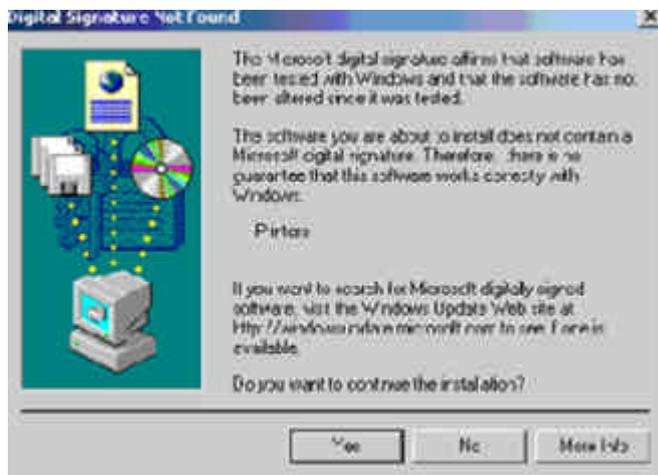

Fig. 11
3. The **Digital Signature Not Found** message box will appear (see Fig.11). You will be asked if you wish to continue installation, select **Yes**. In Windows XP, select **Continue Anyway**.
- i. The **Digital Signature Not Found** message box (see Fig. 11) will appear. You will be asked if you wish to continue installation, select **Yes**. In Windows XP, select **Continue Anyway**.